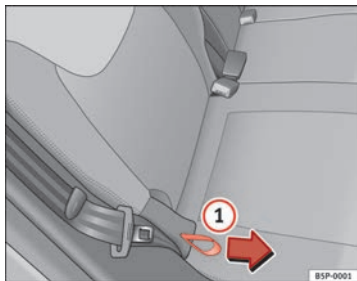

Fig. 96 Rear seat backrest angle adjustment
- Hold the backrest at the top. Pull the loop on the side of the seat ⇒ Fig. 96 ① in the direction of the arrow and hold the loop in this position. Push the backrest to the required position and release the loop.